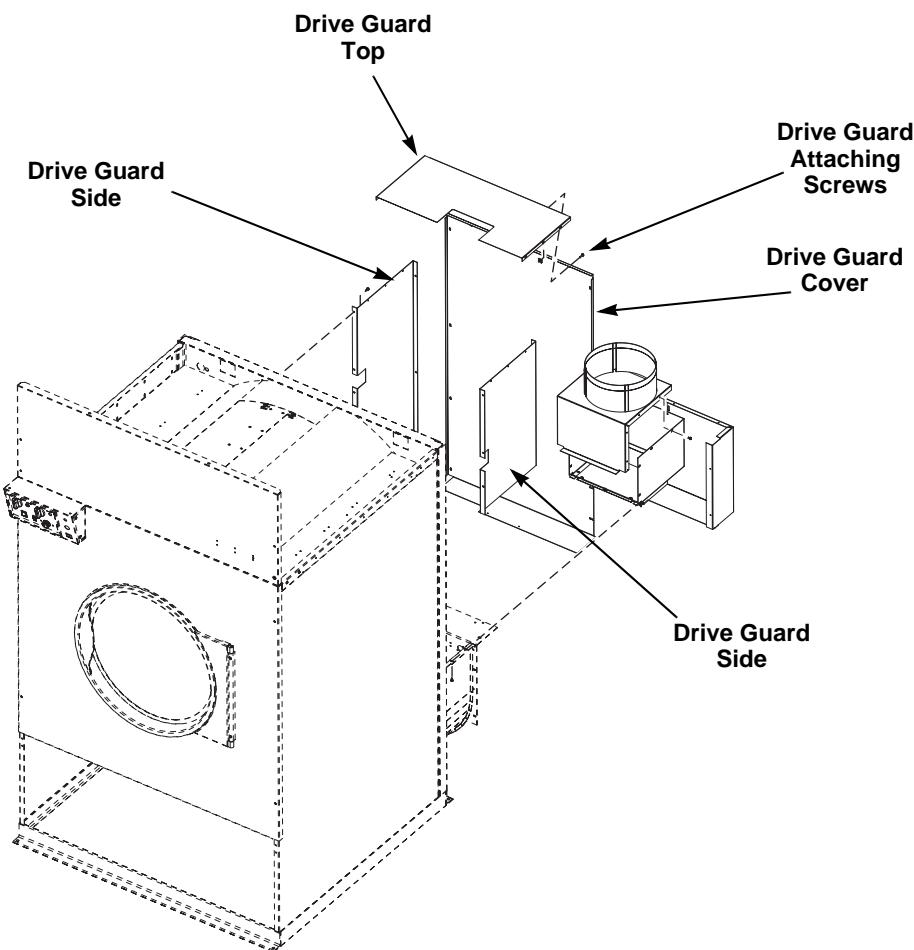

Figure 12
- a. Support drive guard cover and remove screws holding guard to rear of tumbler. Refer to *Figure 12*.
Refer to *Figure 12*.
- a. Support corner drive guard and remove screws holding corner drive to rear of tumbler. Refer to *Figure 12*.
- b. Support drive guard cover and remove screws holding guard to rear of tumbler. Refer to *Figure 12*.